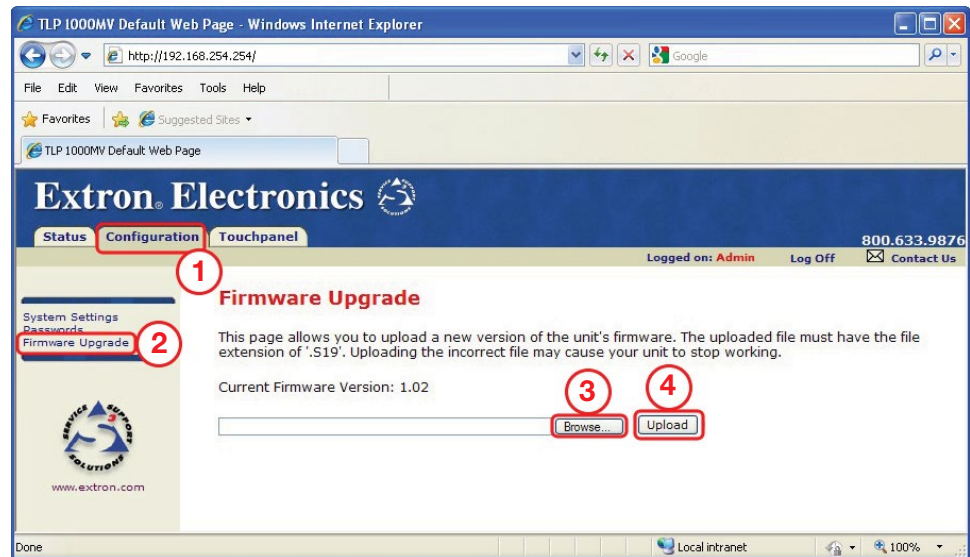

Figure 25. Firmware Upgrade Web Page
4. Click the **Configuration** tab (Figure 25, ①) at the top of the page and then select **Firmware Upgrade** (Figure 25, ②) from the sidebar on the left.
5. Click the **Browse** button (Figure 25, ③) and navigate to the firmware file that was saved in step 2.
6. Click **Upload** (Figure 25, ④). The Touchpanel screen shows the message “Firmware Uploading... Please Wait...”. When the firmware is uploaded, the screen shows the message “Restarting...”. Once the firmware is installed, the panel can be calibrated using the **on-screen menus** (see page 14) or the **TouchLink panel web pages** (see page 19).